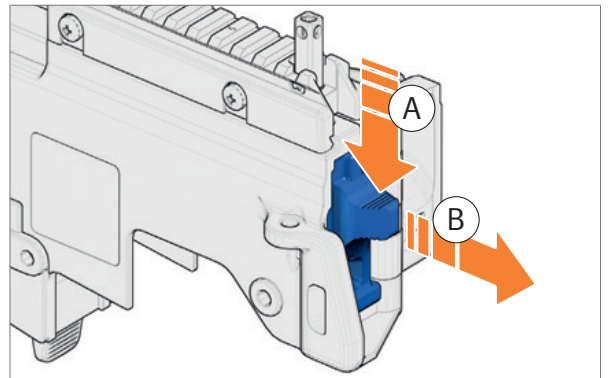

Fig. 105: Remove back plate and bolt group
3. Push back plate downwards and hold it (Fig. 105).
4. Remove back plate and bolt group from the receiver (Fig. 105).